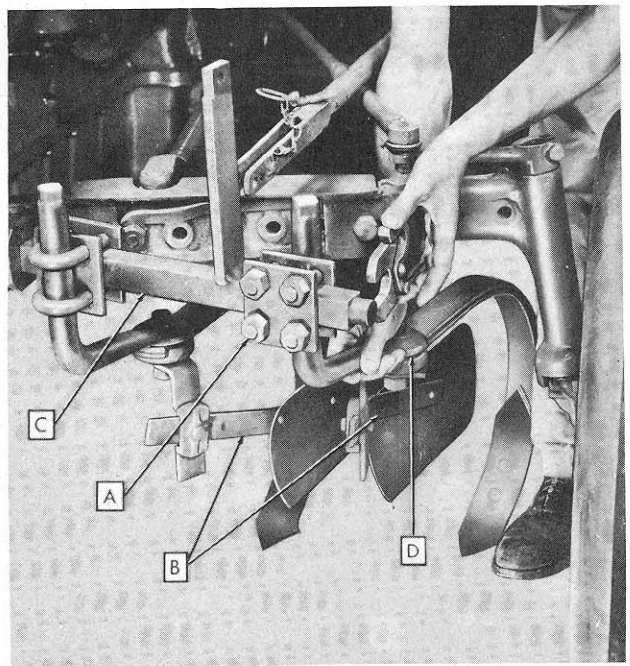
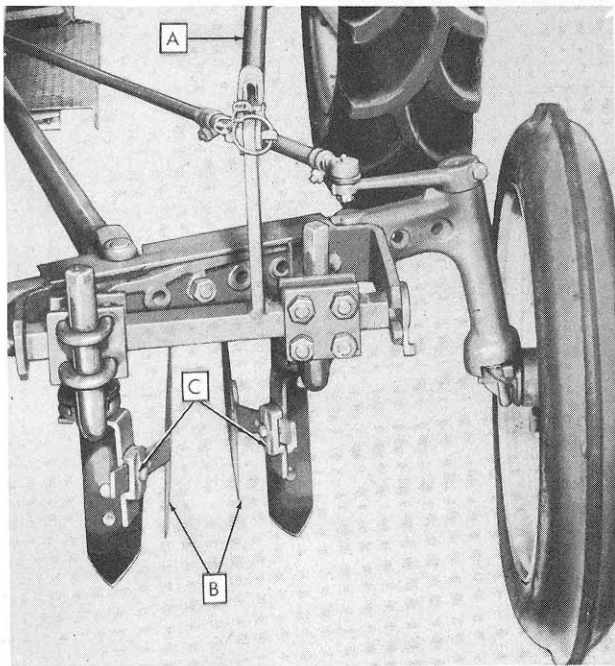

Figure 5
Figure 6
**Step 6.** Assemble right and left front cultivator units as shown in Figure 5, leaving four bolts (A) holding beams on square cross shaft, and fender straps (B) loose, for adjustment after mounting on tractor.
**Step 7.** Attach cultivator assemblies to front mounting brackets as shown in Figure 6. Then attach front push rod (A).
The distance between shovels may be varied by moving the brackets on the square cross shaft (C) in Figure 5 as desired, or by chang-
ing the angle of the spring shanks where they are attached to the stem cranks (D) in Figure 5.
Fenders (B) in Figure 6, provided for the protection of plants, may be varied in width by adjustment at (D) in Figure 5. They are easily positioned at the desired distance from the soil by adjustment of the fender mounting arms (C) in Figure 6.